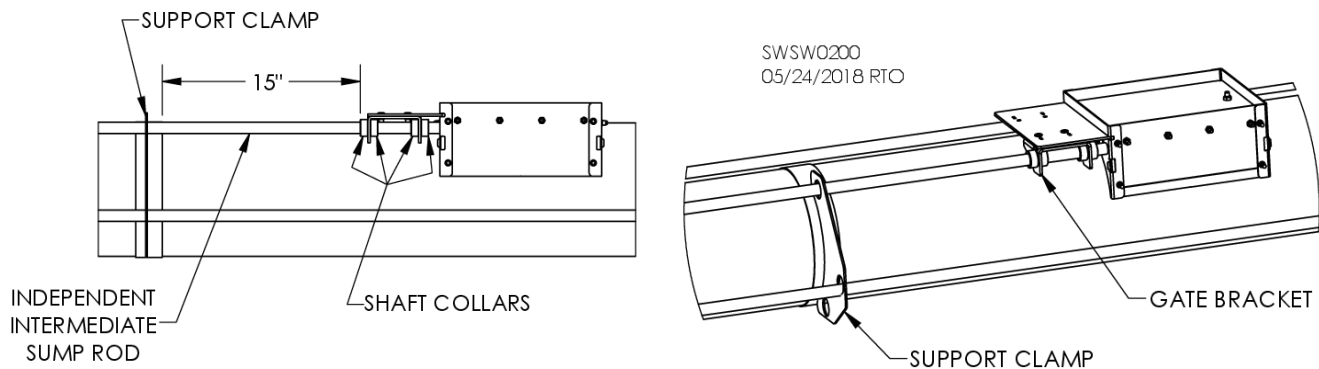

Fig. 15
1. Remove four (4) shaft collars from pull rod.
4. Slide pull rod through support clamps and into gate bracket as shown in Fig. 15, simultaneously attaching shaft collars to rod as shown.